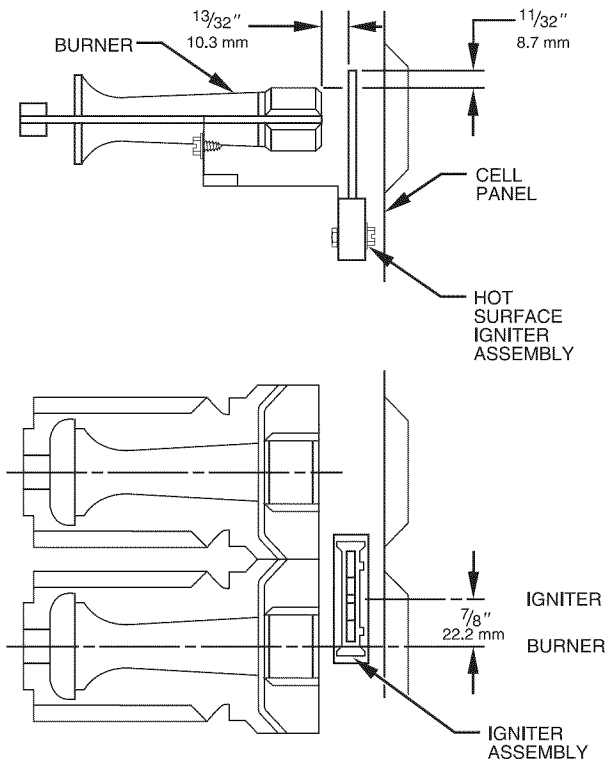

Fig. 42 - Silicon Carbide Igniters
7. For Silicon Carbide igniters, see Fig. 42.